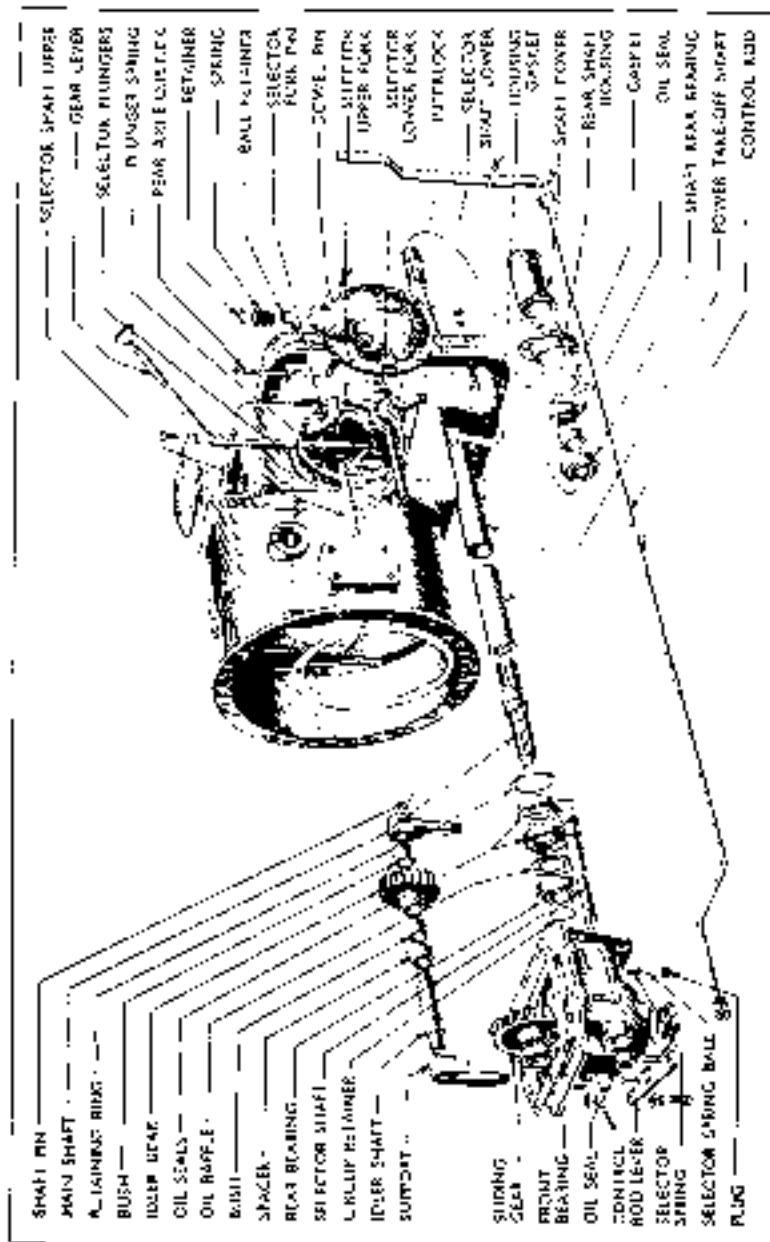

Figure 71
Punch out the pin in each selector fork, when the shafts are free to be pressed out of the housing. Take care not to lose the plungers, springs or interlock. See Fig. 71.
Then unscrew the bolts of the power take-off shaft housing and pull the shaft rearwards clear of the splines. Disconnect the control rod from the lever and undo the bolts (3) in the vertical flange and 7 in the horizontal flange, when the power take-off unit may be withdrawn from the gearbox. See Fig. 71.